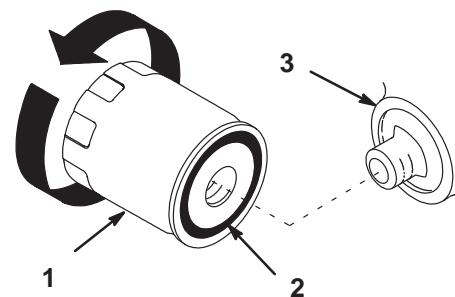

Figure 21
- Remove the old filter and wipe the filter adapter (Fig. 21) gasket surface.
- Apply a thin coat of new oil to the rubber gasket on the replacement filter (Fig. 21).
6. Install the replacement oil filter to the filter adapter. Turn the oil filter clockwise until the rubber gasket contacts the filter adapter, then tighten the filter an additional 1/2 turn (Fig. 21).